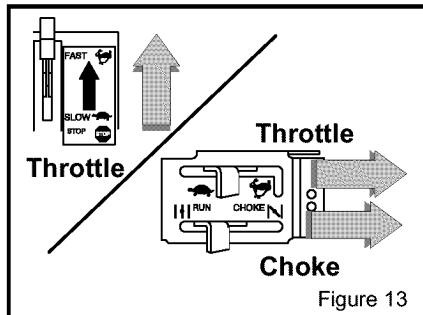

Figure 13
2. Then, move the **throttle control lever** to the STOP position (Figure 13).
5. Move the **throttle control lever** (if equipped) to the FAST position (Figure 13).
6. Move the **choke control lever** to the CHOKE position (Figure 13).